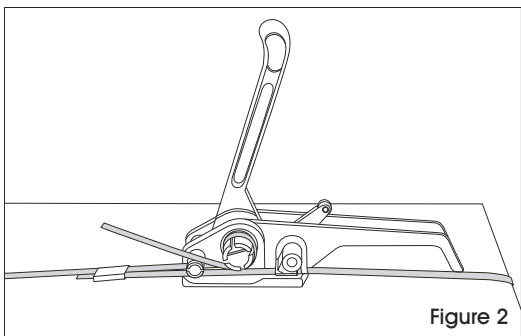

Figure 2
TENSIONING (See Figure 2)
**SERRAGE (Voir Figure 2)**